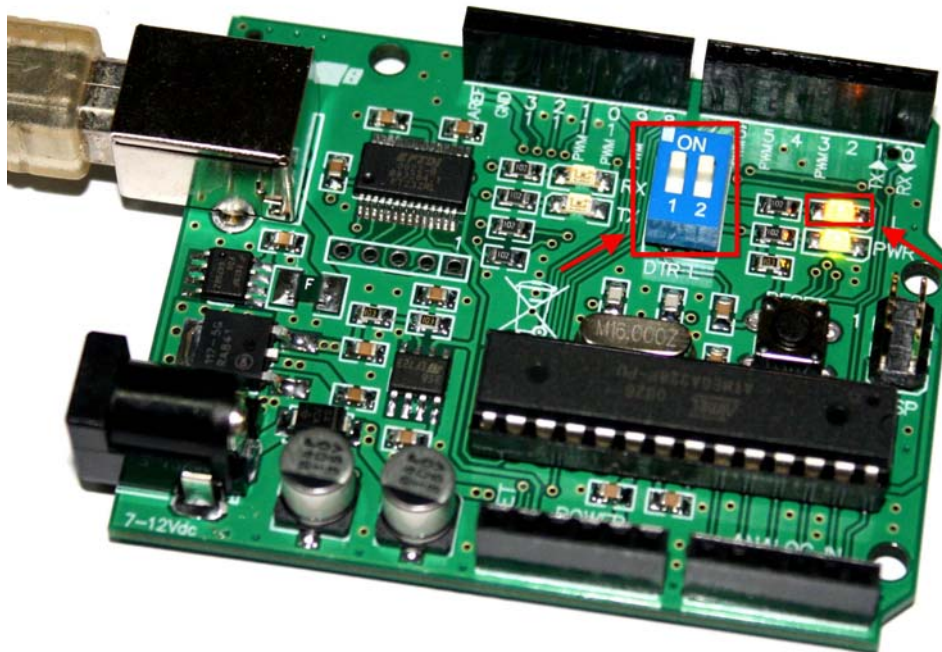

Figure2.4.1
- 2.4.1. Connect the Fino (Arduino Compatible) Board to your computer via USB cable and power supply 7-12VDC via DC Jack pole (**Outer pole is negative pole and Inner pole is positive pole**) then LED-PWR (Green LED) will be lighted as figure2.4.1 and choose DIP switch position1 (DTR) & position2 (L) are “**ON**” as figure2.4.1.